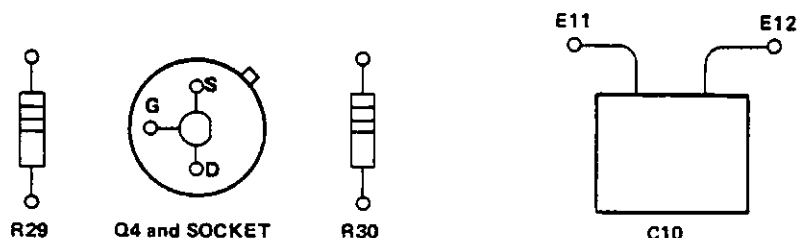

FIGURE 2.35 Q4 and C10 LOCATIONS
b. Verify that Q4 and C10 are installed on the module (see figure 2.35). If Q4 or C10 are not installed obtain a replacement module.